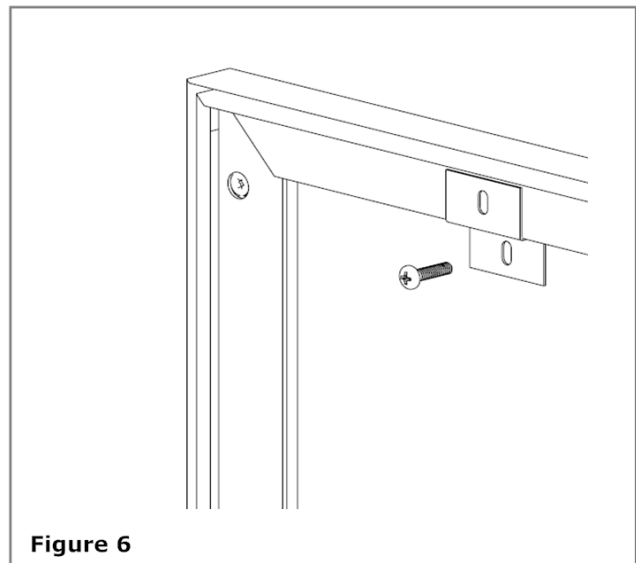

Figure 6
3. Install the top mounting z-clips first. Using fasteners appropriate for the mounting surface, screw through the mounting z-clips into the mounting surface. Do not fully tighten. **See Figure 6.**